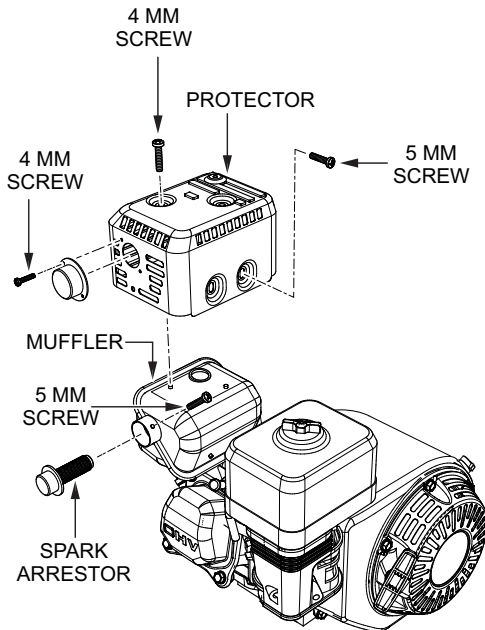

Figure 35. Spark Arrester
1. Remove the 4 mm screw (3) from the exhaust deflector (Figure 35), then remove the deflector.